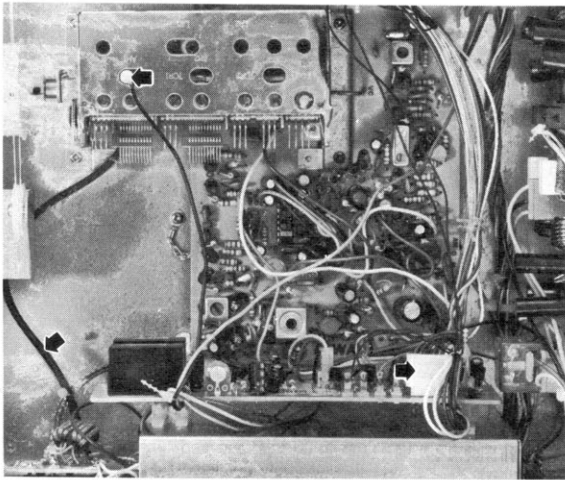

Fig. 3
- 2) Remove the connector. (Refer to Fig. 3)
- 3) Detach the two FM front-end wires with a soldering iron. (Refer to Fig. 3)